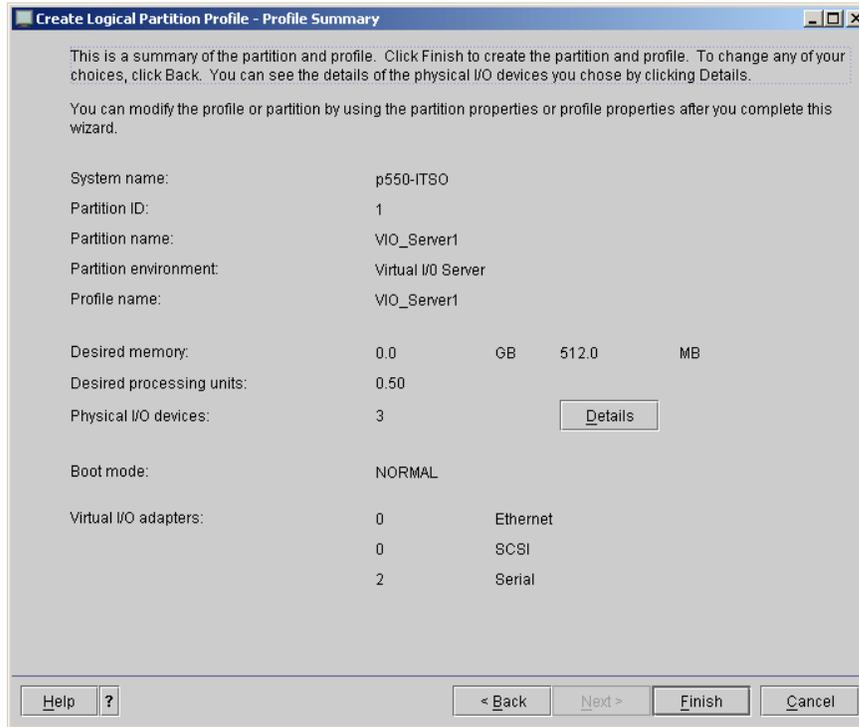

Figure 3-19 Partition settings view
- Carefully check the settings you had previously chosen for the partition, as shown in Figure 3-19, and then launch the partition creation wizard by clicking **Finish** when done.